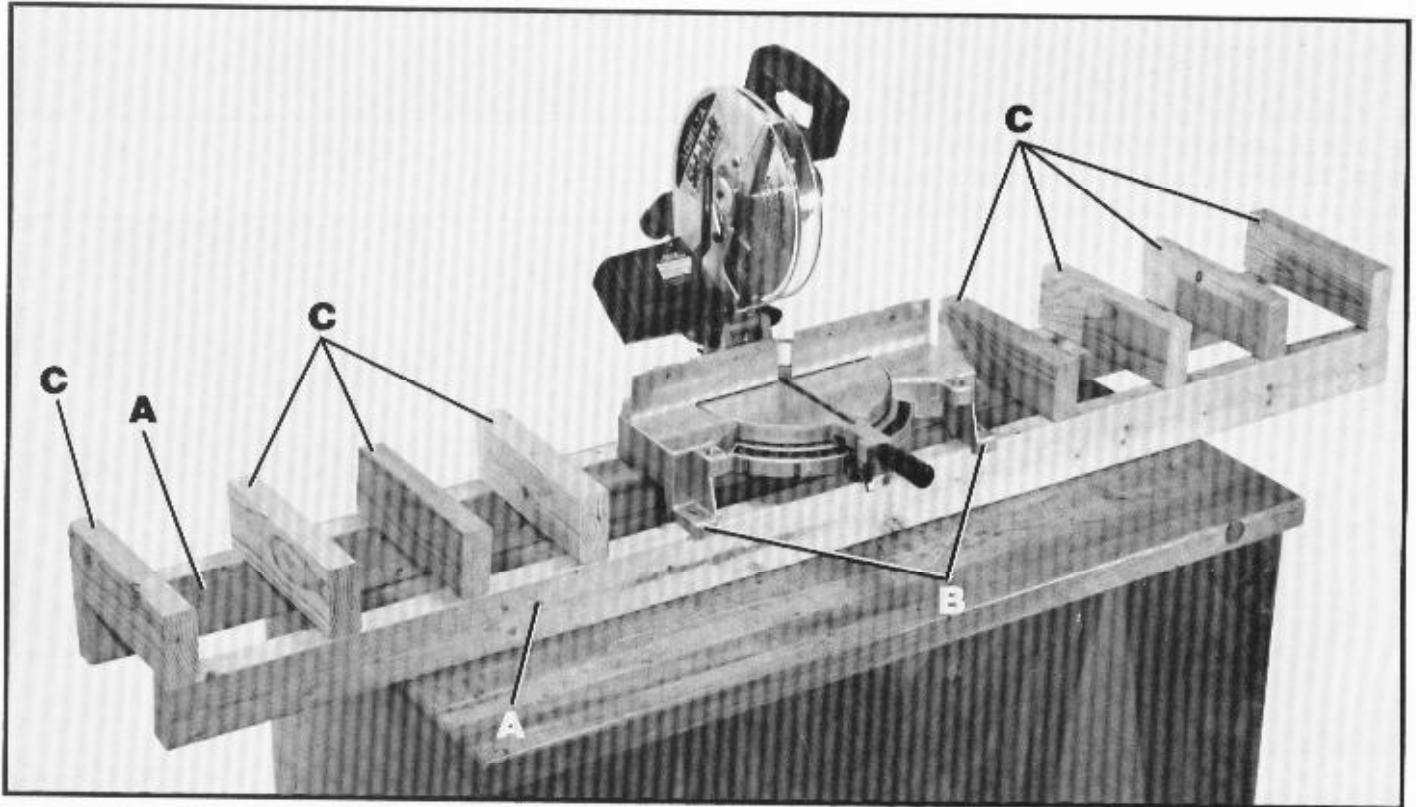

Fig. 57
One of the unique features of your miter box is the ease with which you can construct work supports. Fig. 57, illustrates the miter box mounted to two standard 2 x 4's (A). Fasten the mounting legs of the miter box [two of which are shown at (B)] to the 2 x 4's using four screws through the four holes in the mounting legs. The length of the 2 x 4's (A) can vary depending on your preference. The distance from the top of the 2 x 4's (A) to the miter box table is 3-1/2 inches. This enables you to nail standard 2 x 4's (C) to the top of the 2 x 4's (A) , as shown. The top of the 2 x 4's (C) will then be the same height as the miter box table.